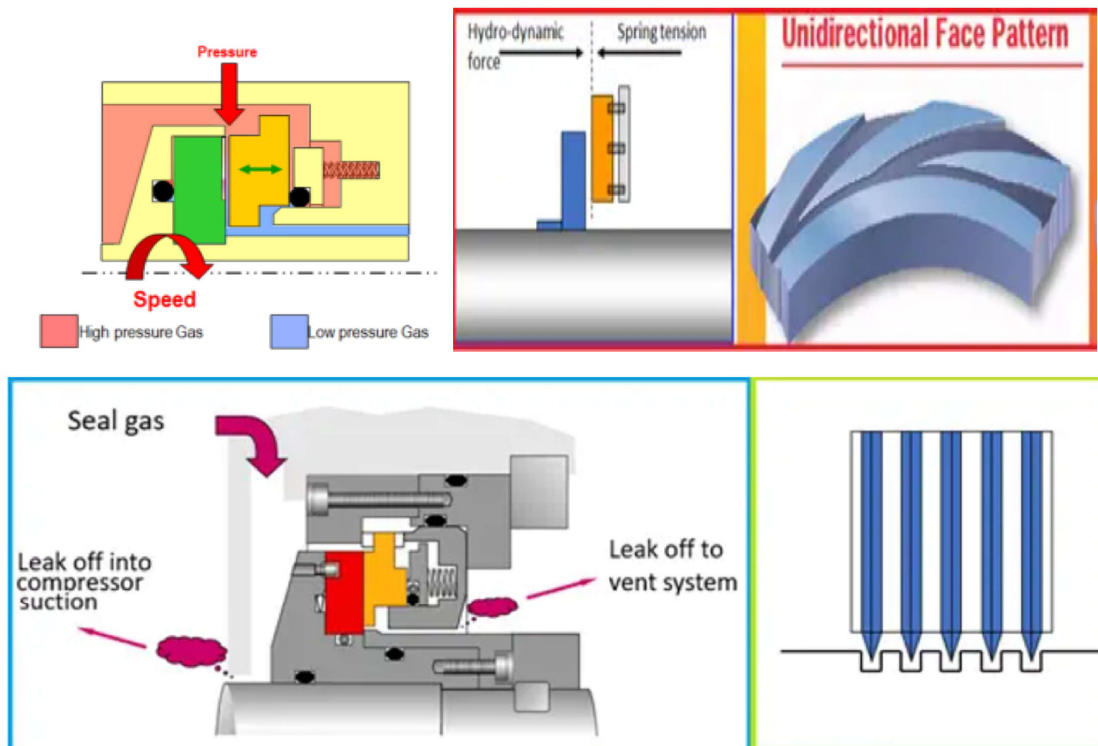

Figure.5. Seal lifts off while running
- This separation is called **lift off**. The lift off is mainly influenced by two effects (**Figure.5**):